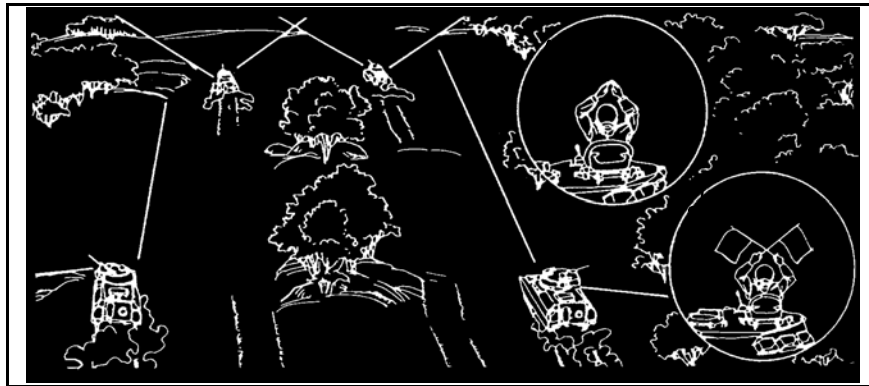

Figure 4. Wedge formation.
d. Select the wedge formation when the enemy situation is vague (Figure 4). This formation provides excellent fire to the front and good fire to each flank. It also allows control of the BFVs and rapid deployment into other formations. The orientation of the pairs is left and right. The platoon leader and platoon sergeant control the other BFV (wingman) of their pair by directing it to follow to the outside and to orient its weapons toward the flank.